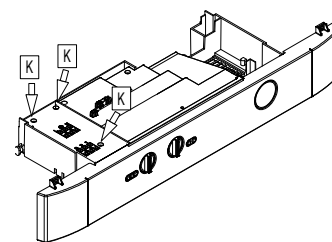

Figure 12.4
- Loosen screws K and remove the service panel (Fig. 12.4).